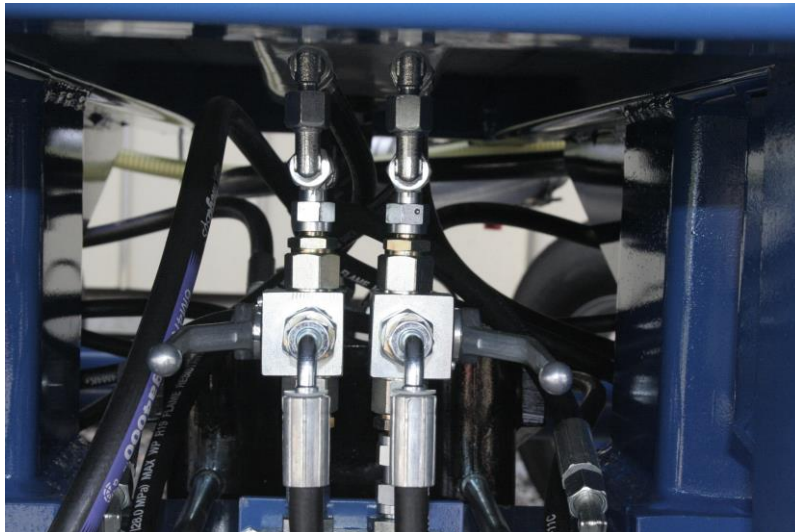

Fig. 5 Valves in the Chassis Control Position
4. The three-way valve levers will rearrange to the horizontal position for the chassis control /Fig. 5 /.